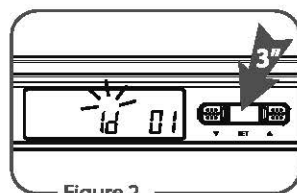

Figure 2
- (1) Press "Set" button ⑤ for 3 seconds, LCD Panel will start flashing.
- (2) Press "Set" twice to enter "ID Code" setting window. (Figure 2)
- (3) Press "▲Up ③" or "▼Down ④" button to select a distinct ID code from "id 0" to "id 99"
- (4) After setting, press "Set" again to save the settings.